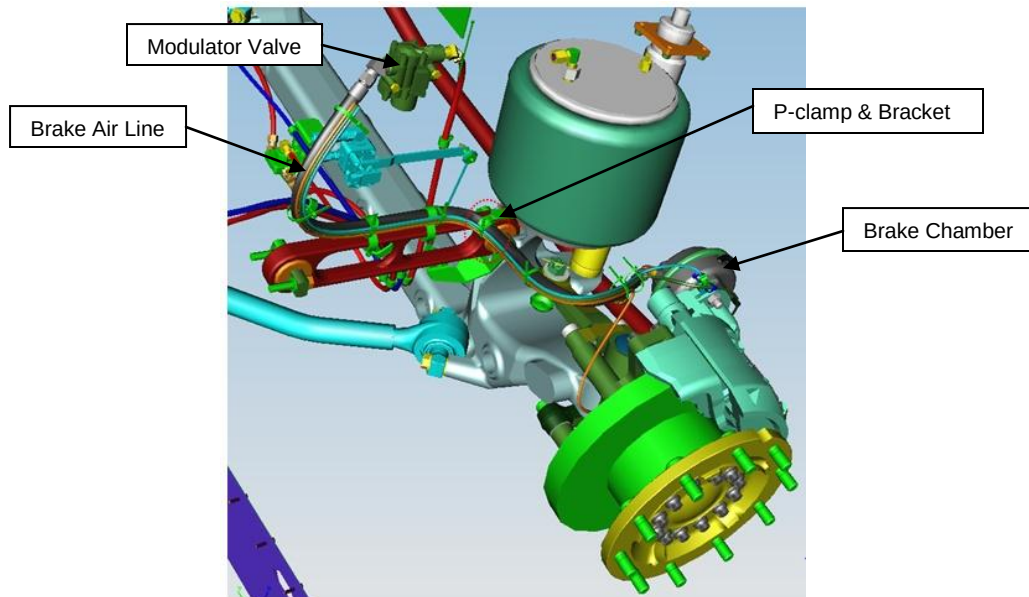

Figure 1: Existing Brake Hose Routing & P-Clamp/Bracket.
3. Locate the P-clamp and bracket that retain the brake air line. It is attached to front the suspension below the air bag. Figure 1.